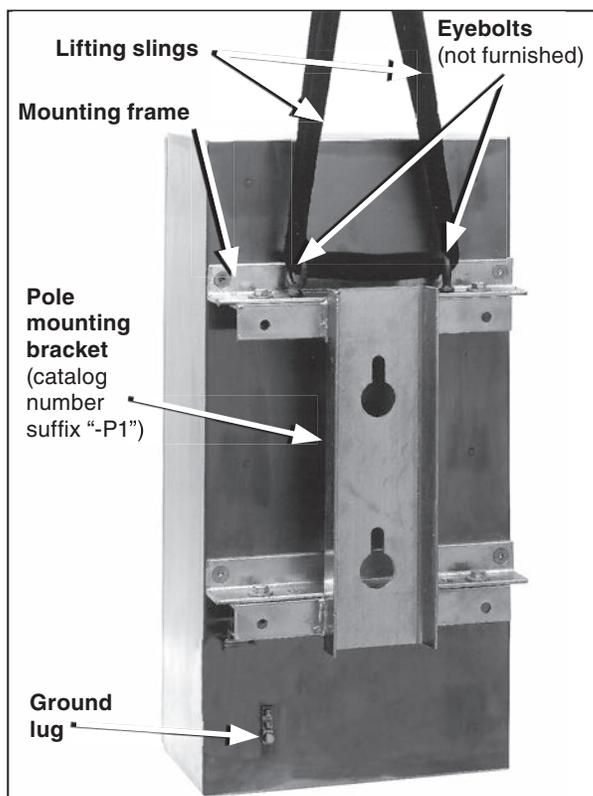

Figure 4. Hoisting the enclosure into position.
- (c) Attach two eyebolts (not furnished) to the holes provided at the top of the enclosure mounting frame. See Figure 4 on page 15. Securely tighten the eyebolts. Attach two suitable lifting slings to the eyebolts and slowly raise the slings so they become taut. Carefully raise the enclosure to its mounting level and guide it so the through-bolts projecting from the utility pole slip into the two keyholes in the pole mounting bracket. Lower the enclosure slightly so it bears on the through-bolts. Fully tighten the through-bolts, making sure the washer for each bolt is between the bolt head and the pole mounting bracket. Proceed to Step 3.
*If the source-transfer control enclosure is to be steel-structure-mounted:* Attach two eyebolts (not furnished) to the holes provided at the top of the enclosure mounting frame. See Figure 4 on page 15. Securely tighten the eyebolts. Attach two suitable lifting slings to the eyebolts and slowly raise the slings so they become taut. Carefully raise the enclosure to its mounting level and securely bolt it in place.
**STEP 3.** Ground the enclosure by solidly connecting one number 6 AWG wire (or wires of equivalent cross-sectional area) to the ground lug on the back of the enclosure. See Figure 4 on page 15.